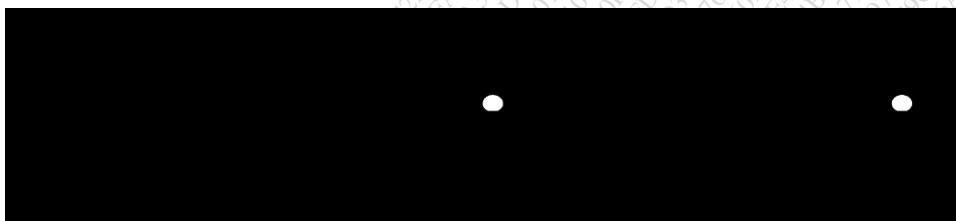

Figure 5
- B) Analyse the Continuous beam ABC having support A as Fixed and other are rollers as shown in figure 5. Assume that supports are unyielding. EI is constant for all members. Use Stiffness method for analysis. 06